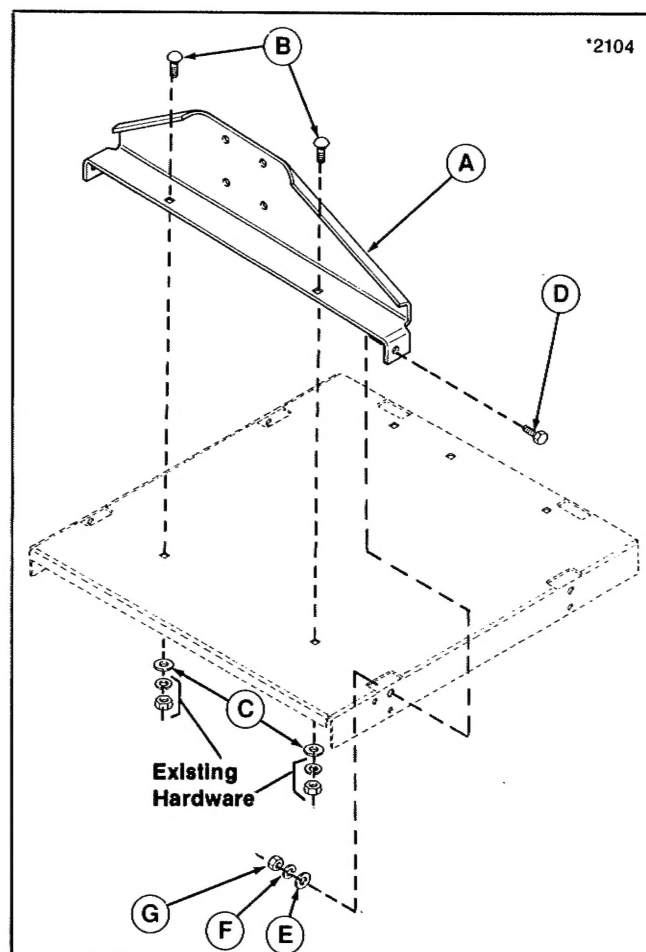

Figure 1.
1. Open the rear platform to access hardware used to secure the latch rod. Remove lockwasher and nut (early models) or flange locknut (later models) from underside of platform. Remove 3/4" carriage bolt and install platform bracket (A, figure 1) with new 5/16-18 x 1" carriage bolts (B, from top side). Reposition clip over latch rod and secure with large flat washer (C, 1-1/4" O.D.), and existing hardware.
2. Install 1/4-20 x 5/8" capscrews (D, figure 1) through side of platform bracket and platform and secure with flat washer (E), lockwasher (F), and nut (G).